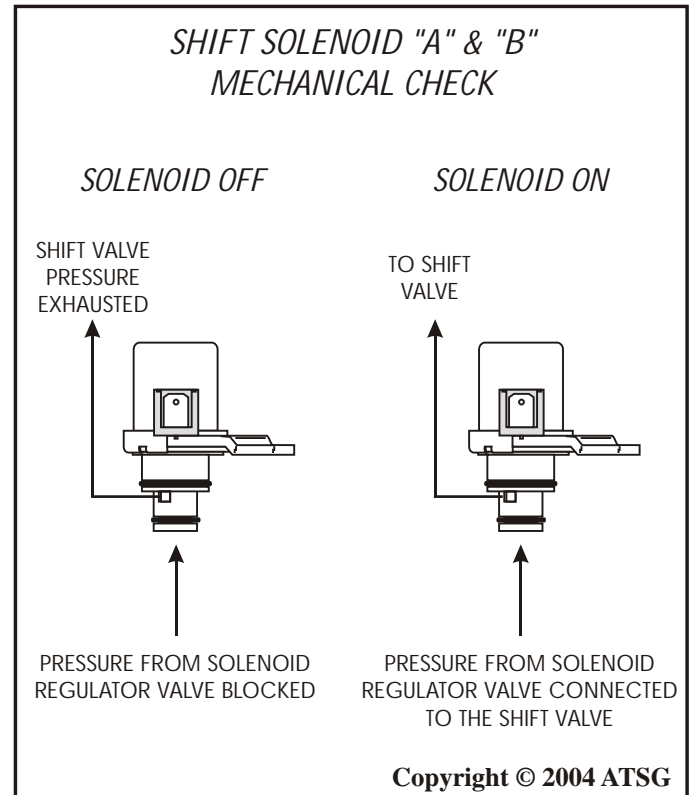

Figure 103
5. Mechanically check shift solenoids "A" & "B", as shown in Figure 103, which have had some concerns.